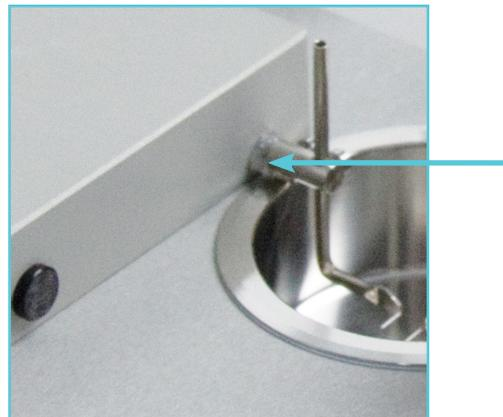

Figure 4.8 Close-up of transducer pin from outside.
7. Tighten the screws and place some vacuum grease around the transducer pin that protrudes from the transducer housing (see "Figure 4.8 - Close-up of transducer pin from outside" on the next page). Make sure that the hole is completely sealed to prevent buffer solution or water from entering the transducer housing and damaging the new force transducer.